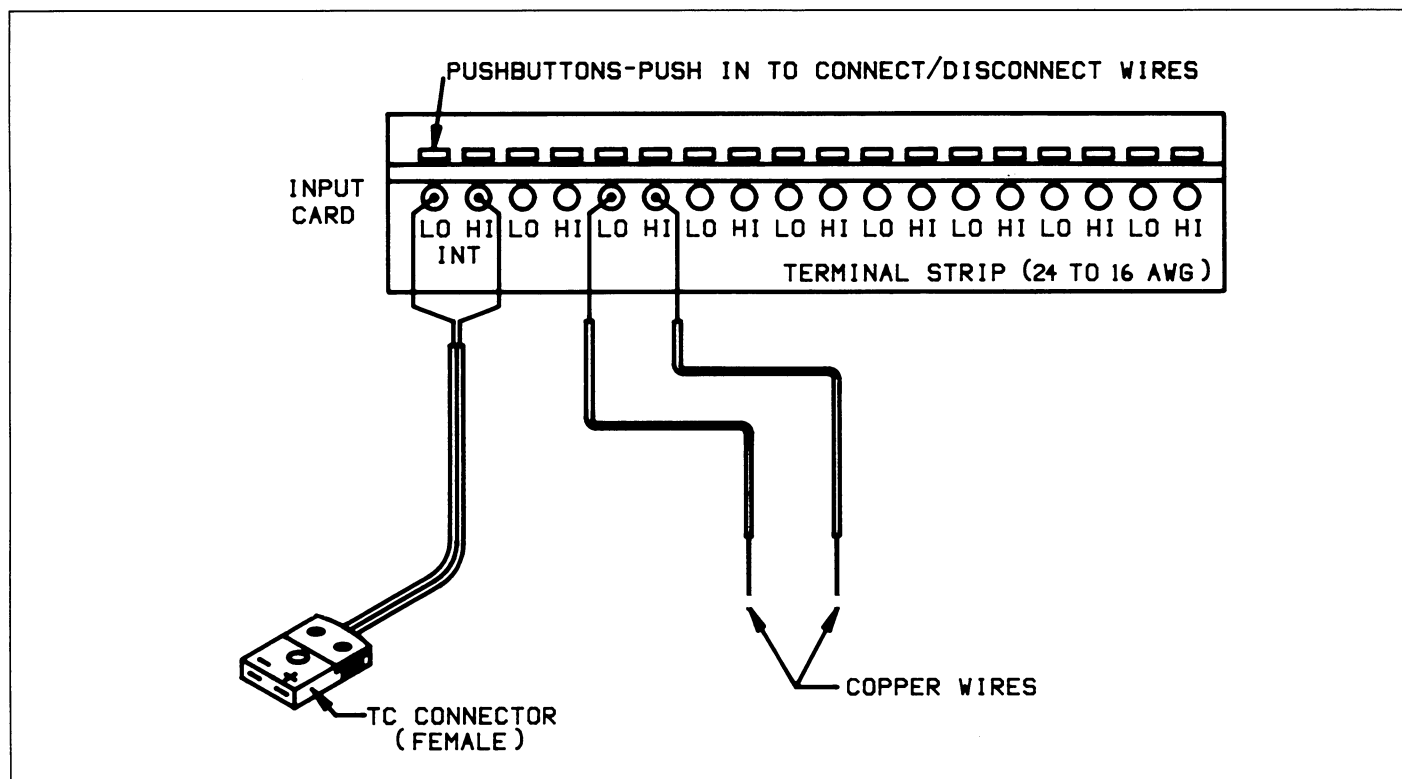

Figure 6-1. Calibration Preparation Setup
- 2. Using Figure 6-1 as a guide, connect an appropriate female TC connector to the INT terminals of the INPUT CARD. A thermocouple will later be mated to the connector for the purpose of calibrating the internal reference junction. Connect a pair of copper test leads to any other pair of terminals on the INPUT CARD. These leads will be used to short the input for zero calibration and to input 100mV to calibrate gain.